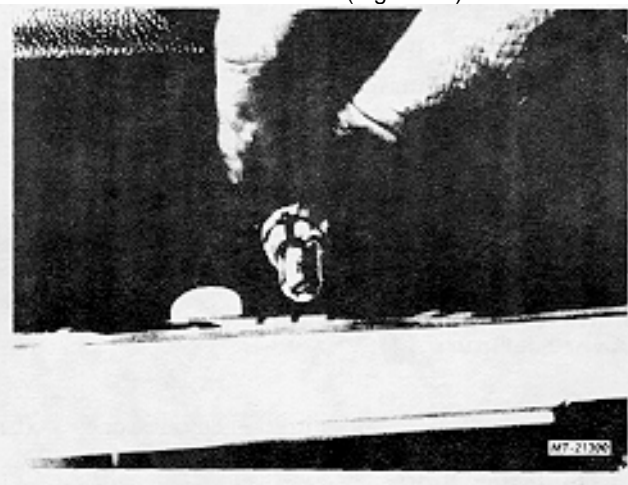

Fig. 13 Removing Bulb and Bulb Socket from Cluster
2. Turn bulb socket about one-eighth turn clock wise (as viewed from front of vehicle). Pull socket (with bulb) from instrument cluster (Figure 13).